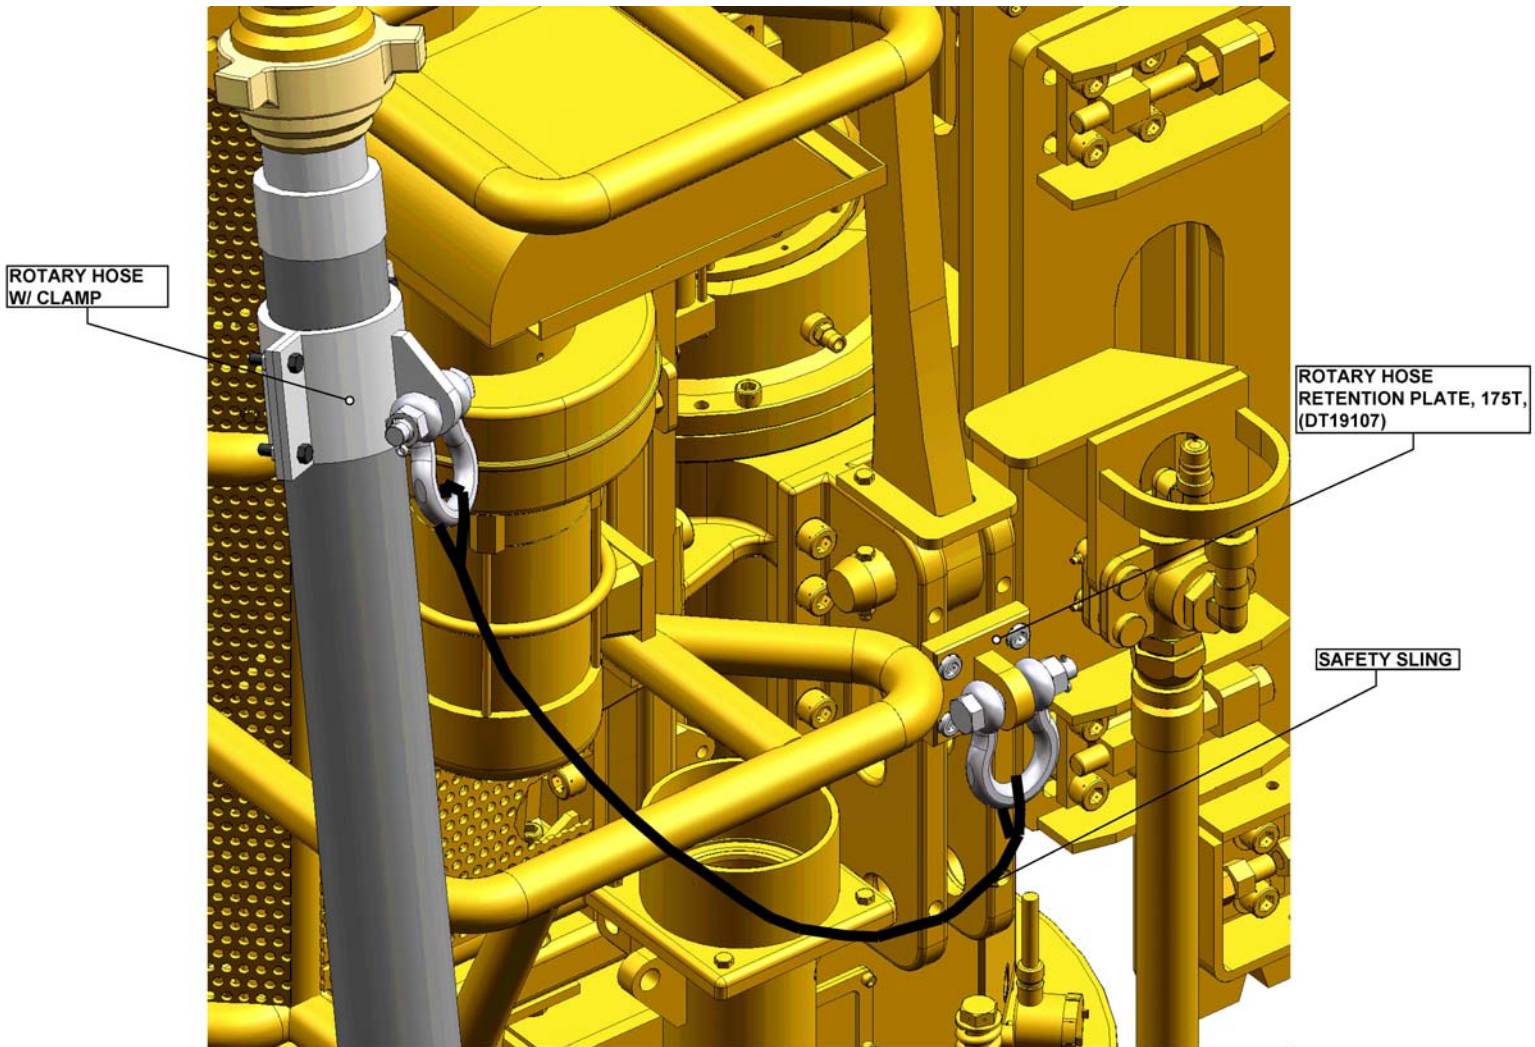

Fig. 3
1. Refer to included drawing (DT19121) for Top Drive Housing modification to drill and tap (4) holes at specified dimensional location in drawing. See Fig. 3.
2. After holes are tapped, install Rotary Hose Retention Plate (DT19107) with (4) 3/4"-10UNC x 1 1/4" (SH-0750NC-0125-W) capscrews and (4) Nordloc washers (LW-0750-NLS)
3. Torque the (4) 3/4"-10UNC x 1 1/4" (SH-0750NC-0125-W) capscrews to 350 ft-lbs and safety wire with (M21-2000-010) and (M19-3006-010).
5. Install the other of sling to shackle and attach on the Rotary Hose Clamp. Tie-wrap slings to eliminate excess slack with (E03-2000-010). Final assembly should be as shown in Fig 3.